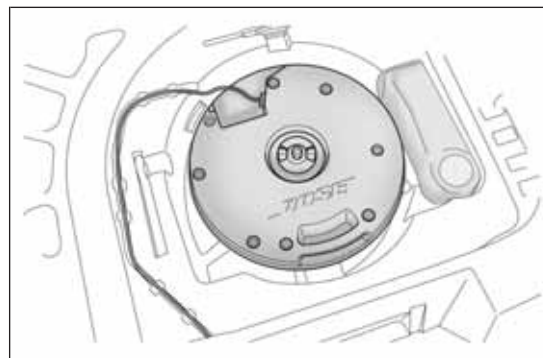

fig. 126
- ❑ take the "Fix&Go Automatic Kit" located on the left side of the luggage compartment (fig. 126);